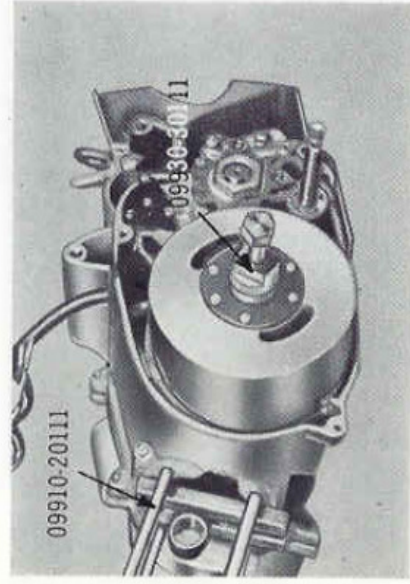
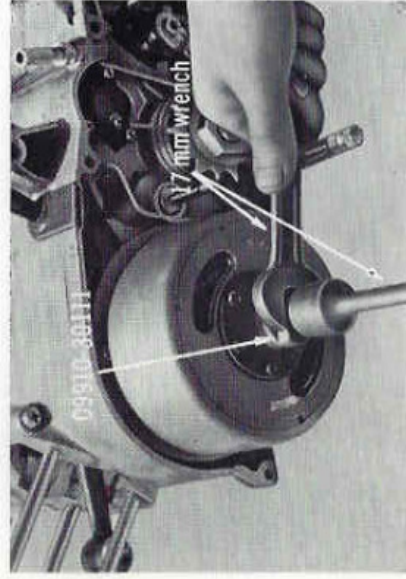

Fig. 8-2-3
Fig. 8-2-4
3. Place a piston holder (special tool 09910-20111) between the con. Rod small end and the crankcase to prevent the crankshaft from turning, and then remove the flywheel rotor nut with a 17 mm wrench. (Fig. 8-2-3) To remove the **flywheel rotor** from the crankshaft, screw the flywheel rotor remover (special tool 09930-30111) counterclockwise into the center hole of the flywheel rotor. Next holding the flat part of the tool with a 17 mm wrench, turn the center bolt clockwise with a 17 mm wrench. (Fig. 8-2-4)